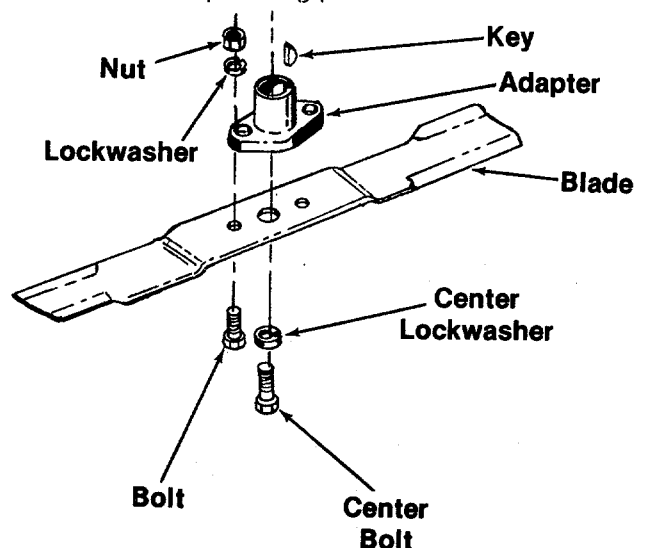

FIGURE 19
3. Be careful not to lose the key on the crankshaft. See figure 19.
4. Remove the two smaller bolts, lockwashers and nuts holding the blade to the adapter. (See figure 19.)